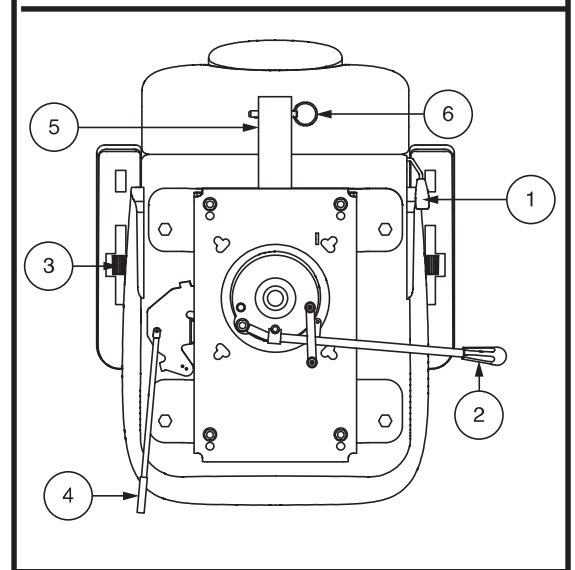

Figure 20. Seat Adjustments
To adjust your scooter's reclining seat, you can adjust the seatback angle with the seatback adjustment lever. See figure 20.
1. Pull upward on the seat rotation lever to disengage the seat. **See figure 20.**
Armrest angle of your scooter can be adjusted upward or downward by turning the adjustment dial. **See figure 20.**
1. Move the seat sliding lever located at the lower left side of the seat outward. **See figure 20.**
The rear-mounted accessory bracket allows you to attach a personal accessory such as a basket, walker holder, or oxygen tank to the back of your scooter. Utilize the detent pin to securely mount your item to the accessory bracket. **See figure 20.** See your authorized Provider for details.